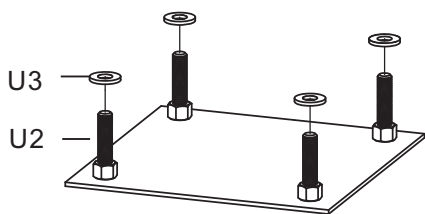

FIGURE 1A
- A. Slide a 18mm Thick Washer (U3) over each of the J-Bolts (U2) as shown in FIGURE 1A.